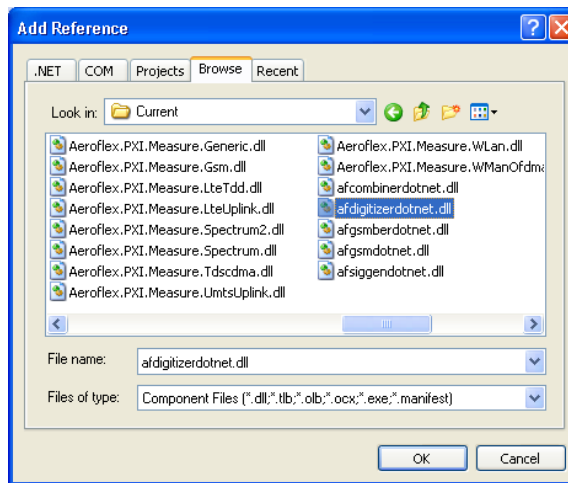

Figure 3 Selecting the .NET DLLs
- 4 From the dialog box that pops up click on the 'browse' tab and navigate to and add the following DLLs. See Figure 3.